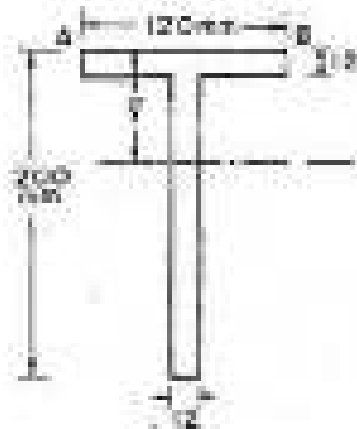

Fig. 4
- b) The cross section of a beam is T section $120\text{mm} \times 200\text{mm} \times 12\text{mm}$ Fig. 4 with 120mm side horizontal. Sketch the shear stress distribution and hence find the maximum shear stress if it has to resist a shear force of 200 kN. [9]